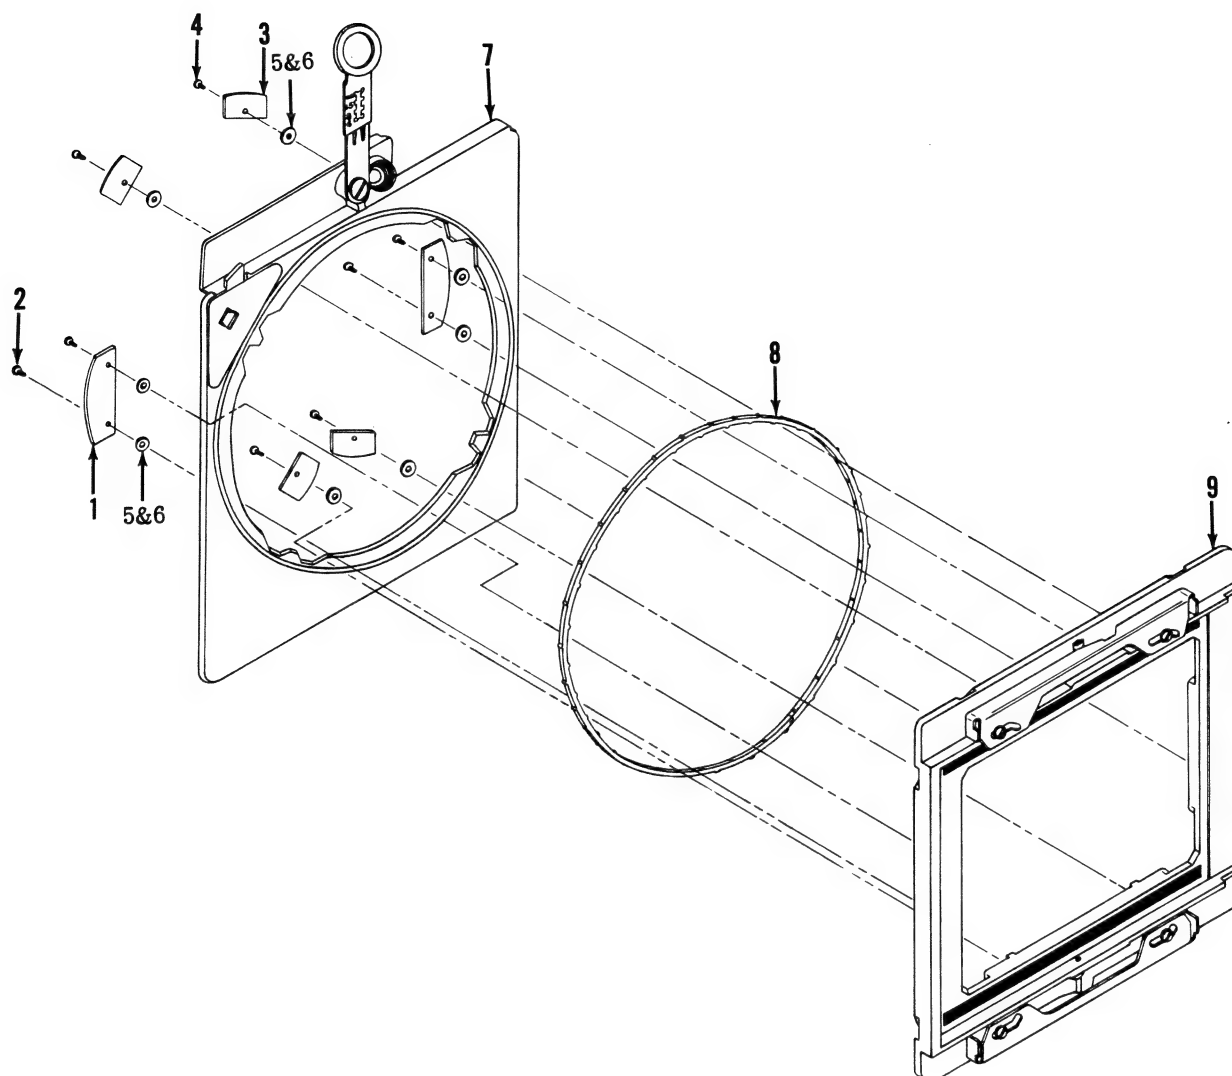
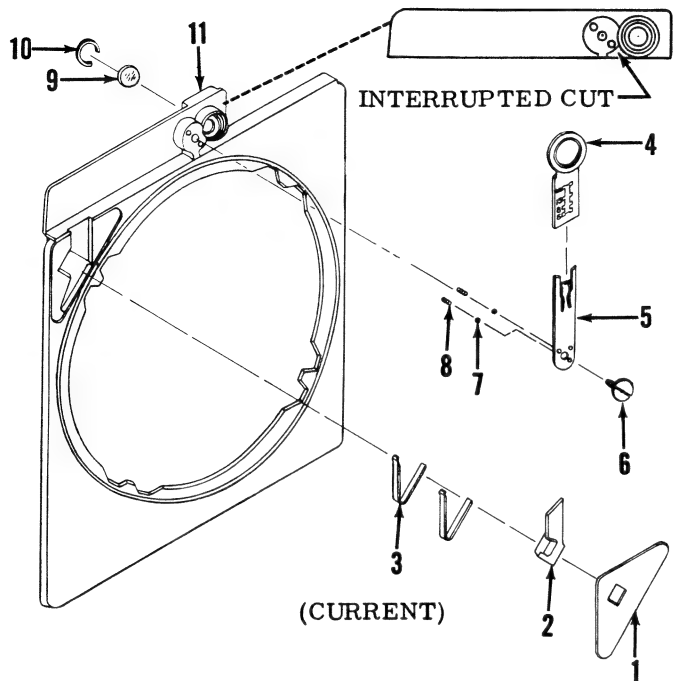
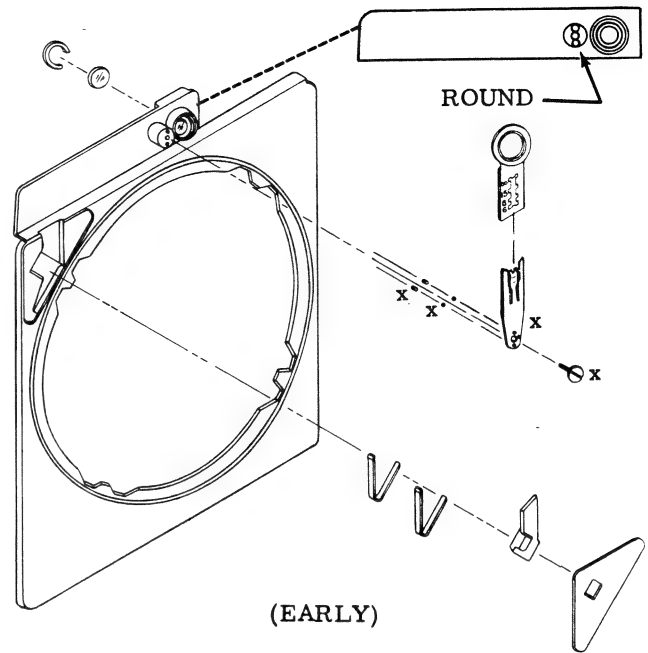

Figure 12. BACK ASSEMBLY
Figure 12A. STATIONARY FRAME COMPLETE
Figure 12B. STATIONARY FRAME COMPLETE
X. BACK ASSEMBLY - DISASSEMBLY AND REASSEMBLY (Figure 12)**1. Disassembly**
a. Remove four machine screws (2), four machine screws (4), two retainers (1), four retainers (3), washers (5 & 6, used as required), and stationary frame complete (7). If disassembly of the stationary frame complete is necessary, see Par. X. 1.
b. Remove revolving ring (8) from grooved track of the revolving frame complete (9). If disassembly of the revolving frame complete is necessary, see Par. X. 2.
NOTE: A change has been made on the stationary frame as illustrated in figures 12, 12A & 12B. Disassembly and reassembly procedures remain the same. Items marked x in figure 12B are not interchangeable with corresponding items in figure 12A. When ordering replacement parts, refer to the correct parts list.
X. 1. STATIONARY FRAME COMPLETE - DISASSEMBLY AND REASSEMBLY (Figure 12A)
a. Remove cemented release button cover (1). Remove release button (2) and two button springs (3) from cavity in stationary frame.
b. Remove peepsight assembly (4).
c. Remove peepsight carrier (5) by removing machine screw (6), two steel balls (7) and two carrier springs (8).
d. Remove rear window (9) from stationary frame assembly (11) by removing retaining ring (10).
a. Assemble rear window (9) and retaining ring (10) in stationary frame assembly (11).
b. Insert two carrier springs (8) into two small holes in boss of stationary frame for carrier peepsight mounting. Apply a light coat of Dow-Corning #44 Silicone grease to two steel balls (7) and place a ball over each carrier spring. Apply paraffin to two sides of peepsight carrier (5) and apply Neolube to underside of head of machine screw (6). Position peepsight carrier in place and secure with machine screw.
c. Assemble peepsight assembly (4) to peepsight carrier.
d. Assemble two button springs (3) in cavity of stationary frame. Apply a light coat of Dow-Corning #44 Silicone grease to release button (2) and position in place. Apply 3M 776 adhesive to area around cavity opening in stationary frame, keeping within .050 in. from edges of cavity. Assemble release button cover (1) and remove excess adhesive.